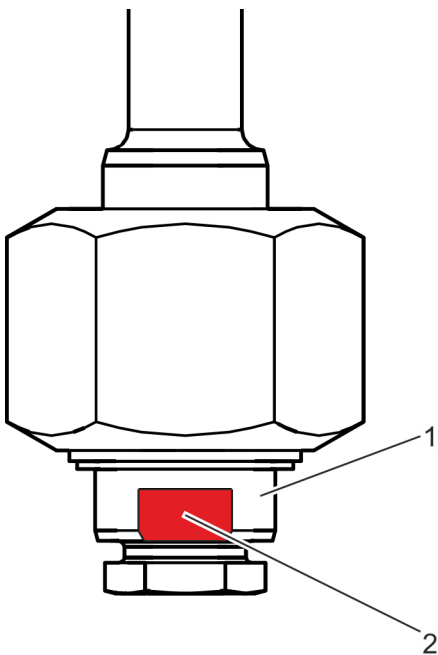

Fig. 19: Holding the valve body in position
11. ▶ Hold the spanner flats (Fig. 19/2) at the bottom of the valve body (Fig. 19/1) in position using a size 30 spanner.